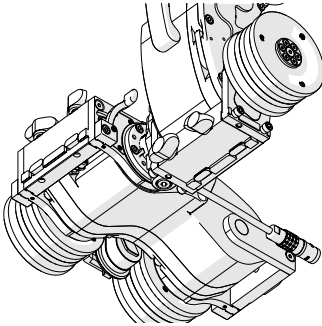
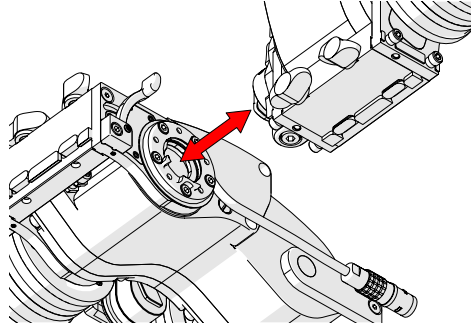

Fig. 100 - Rotate modules to 90°
Fig. 101 - Pull modules apart
2. Once the two modules are 90° perpendicular (Fig. 100), gently pull the two modules apart (Fig. 101).